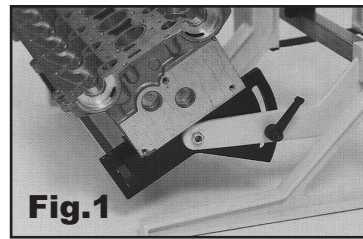

Fig.1
1. Place the cylinder head on the side supports protected by a plastic cover (fig. 1)
2. Manually adjust the side supports, tilting the cylinder head to the correct working angle, and lock them in position (fig. 1)
3. Use the dowel pins located at the brace plates, in the front square tube, to keep the cylinder head from sliding out of the working area, and keep it in correct alignment (fig. 1).
1. Posicione la culata (cabeza) a trabajar sobre los soportes laterales protegidos con una base de plástico (fig 1).
2. Manualmente ajuste los soportes laterals, virando la culata (cabeza) hacia el ángulo apropiado de alineación de válvulas verticalmente, y apriételos en posición (fig 1).